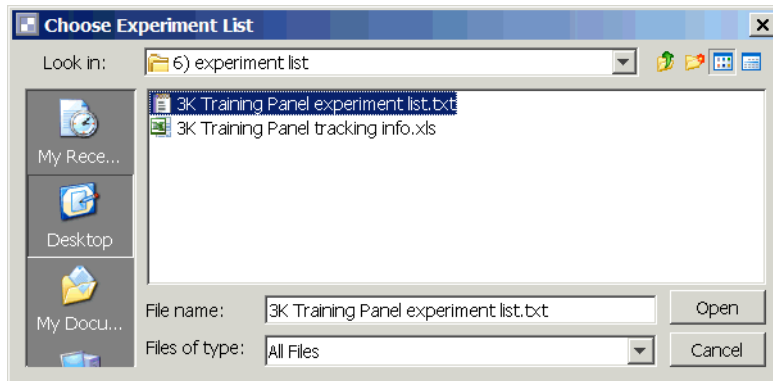

Figure 3.2 Importing an Experiment List from a File
5. Locate and select the experiment list filename (saved as a tab-delimited text file, Figure 3.2).